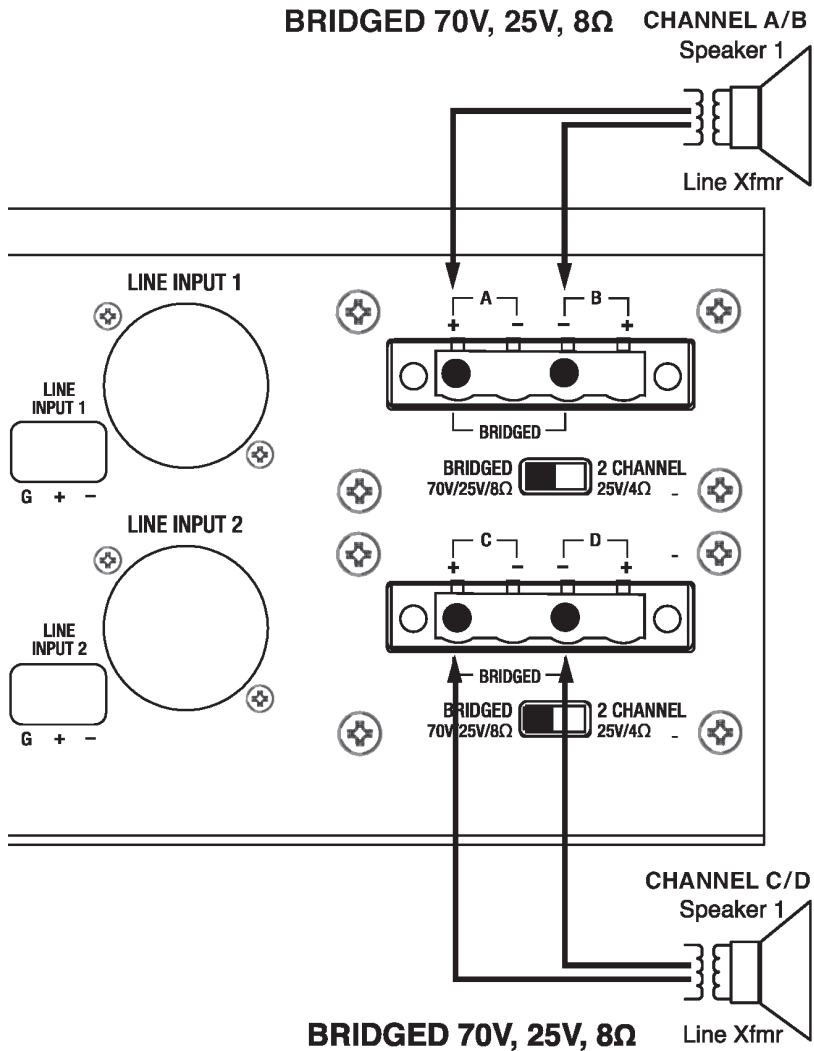
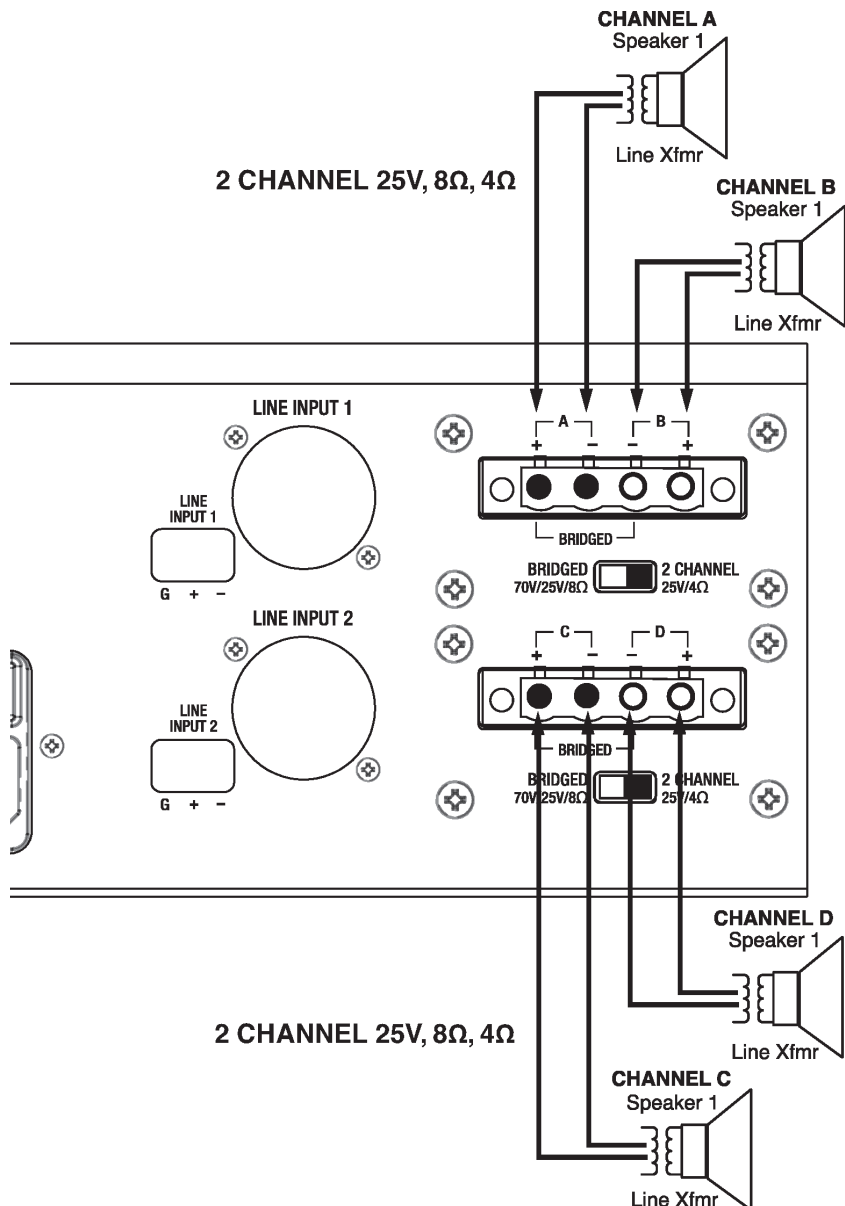

Figure 1. Bridged Wiring
Figure 2. Two-Channel Wiring
5. Connect the loudspeaker wires to the Amplifier Output Terminals, which are labeled A +/-, B +/-, C +/-, and D +/-, as appropriate for the desired mode of operation (see Figures 1 & 2.).
Bridged mode operation requires the speaker wires to be connected across a single, different terminal on each channel (A+ and B- and/or C+ and D-). (See Figure 1.) If two channel mode is used, then Channel A is connected to A+ and A- terminals, Channel B is connected to B+ and B- terminals, Channel C is connected to C+ and C- terminals, and Channel D is connected to D+ and D- terminals. (See Figure 2.)